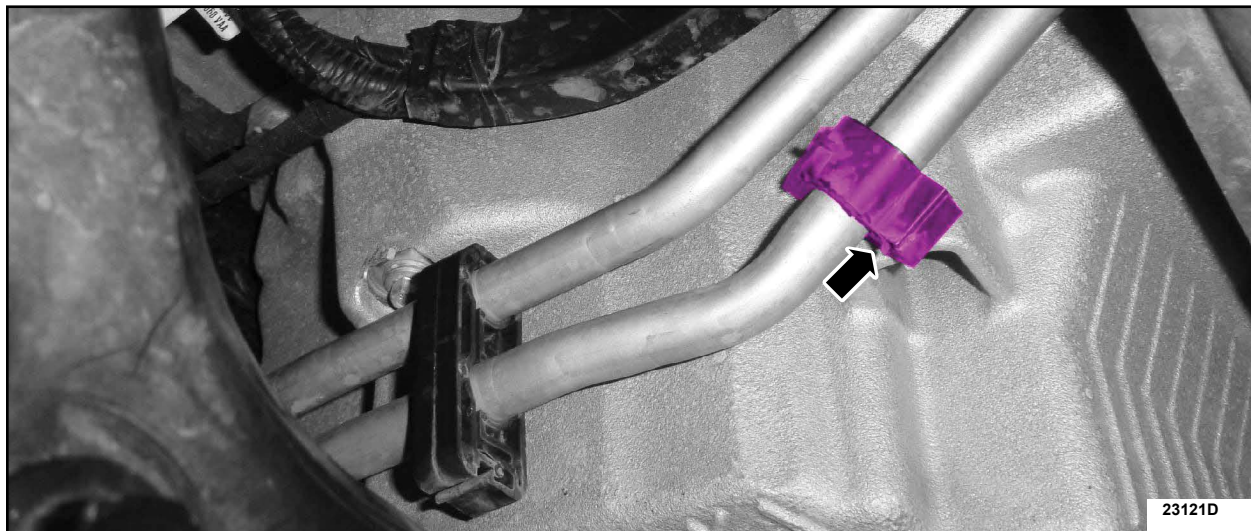

FIGURE 30
45. Attach the transmission cooler tube retainer. See Figure 30.